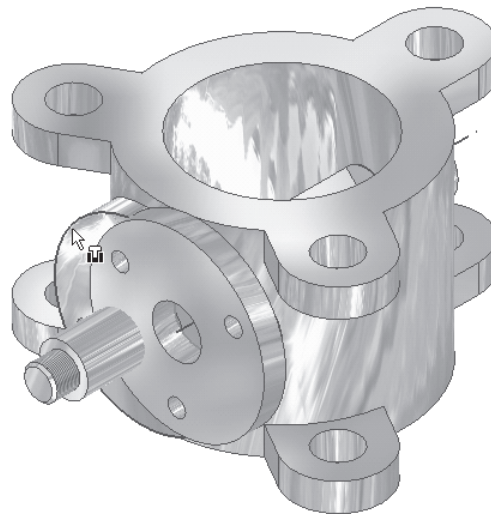

Figure 8-40 Selecting the faces to apply the **Insert** constraint again
8. Select the inner edge of the Retainer that is coplanar with the Body as the first edge to apply the constraint, see Figure 8-40. You may have to rotate the model to select this edge.
9. Select the outer circular edge on the flat face of the front circular feature on the Body as the second face to apply the constraint, see Figure 8-40. Choose **Apply** to assemble the components and then choose **Cancel** and exit the dialog box.